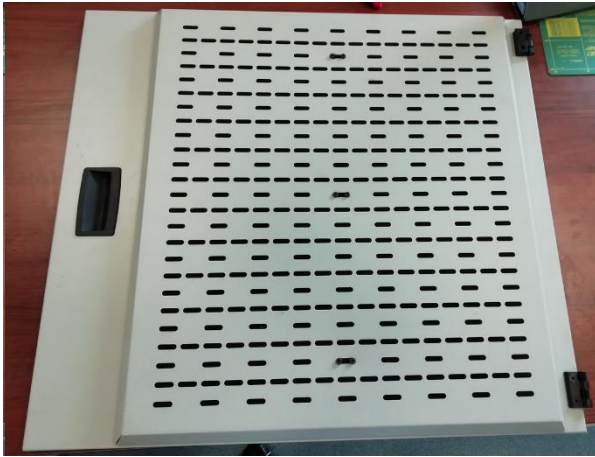

Fig. 10 Removing the top cover from the printer
3. Remove the top cover from the printer and place on a flat surface as shown in the picture (Fig. 10).